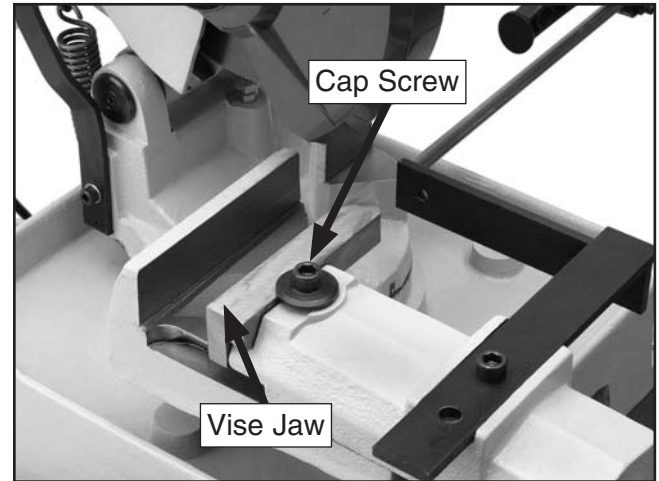

Figure 25. Sliding jaw.
4. Loosen the cap screw until the jaw slides freely (**Figure 25**).